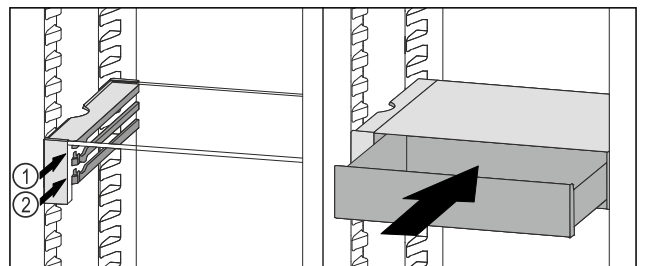

Fig. 130
- Place the VarioSafe drawer behind the stoppers on desired rib Fig. 130 (1) or Fig. 130 (2).